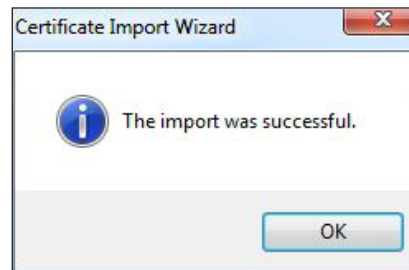

Figure 68. Import Successful Dialog Box.
7. A new dialog box window opens to verify that the import was done successfully (see Figure 68).